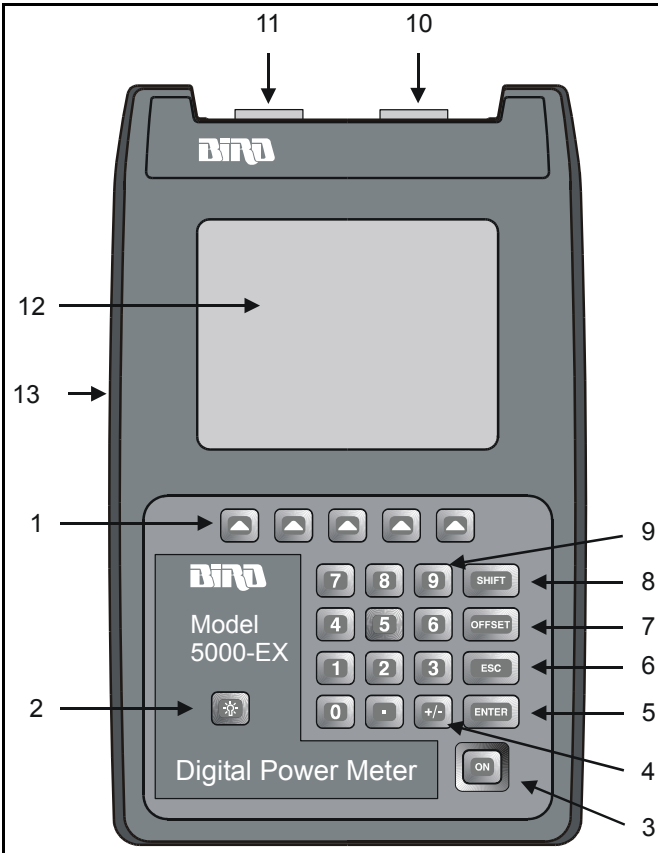

Figure 1 Component Description
Speed keys, which appear under the display, have a different label depending upon the function selected. The names appear at the bottom of the display, directly above the corresponding key. The key names for speed keys are set in bold italic typeface, e.g. *Press the **SCALE** Key.* In this manual, speed keys will also be referred to by number, with speed key 1 being the key on the left. Figure 1 on page 3 shows these speed key numbers.
- ☞ AC Mains Adapter — To use the ac adapter, insert the adapter's barrel connector into the DPM's external dc connector (See Figure 1 on page 3). Insert the adapter plug into a wall receptacle.